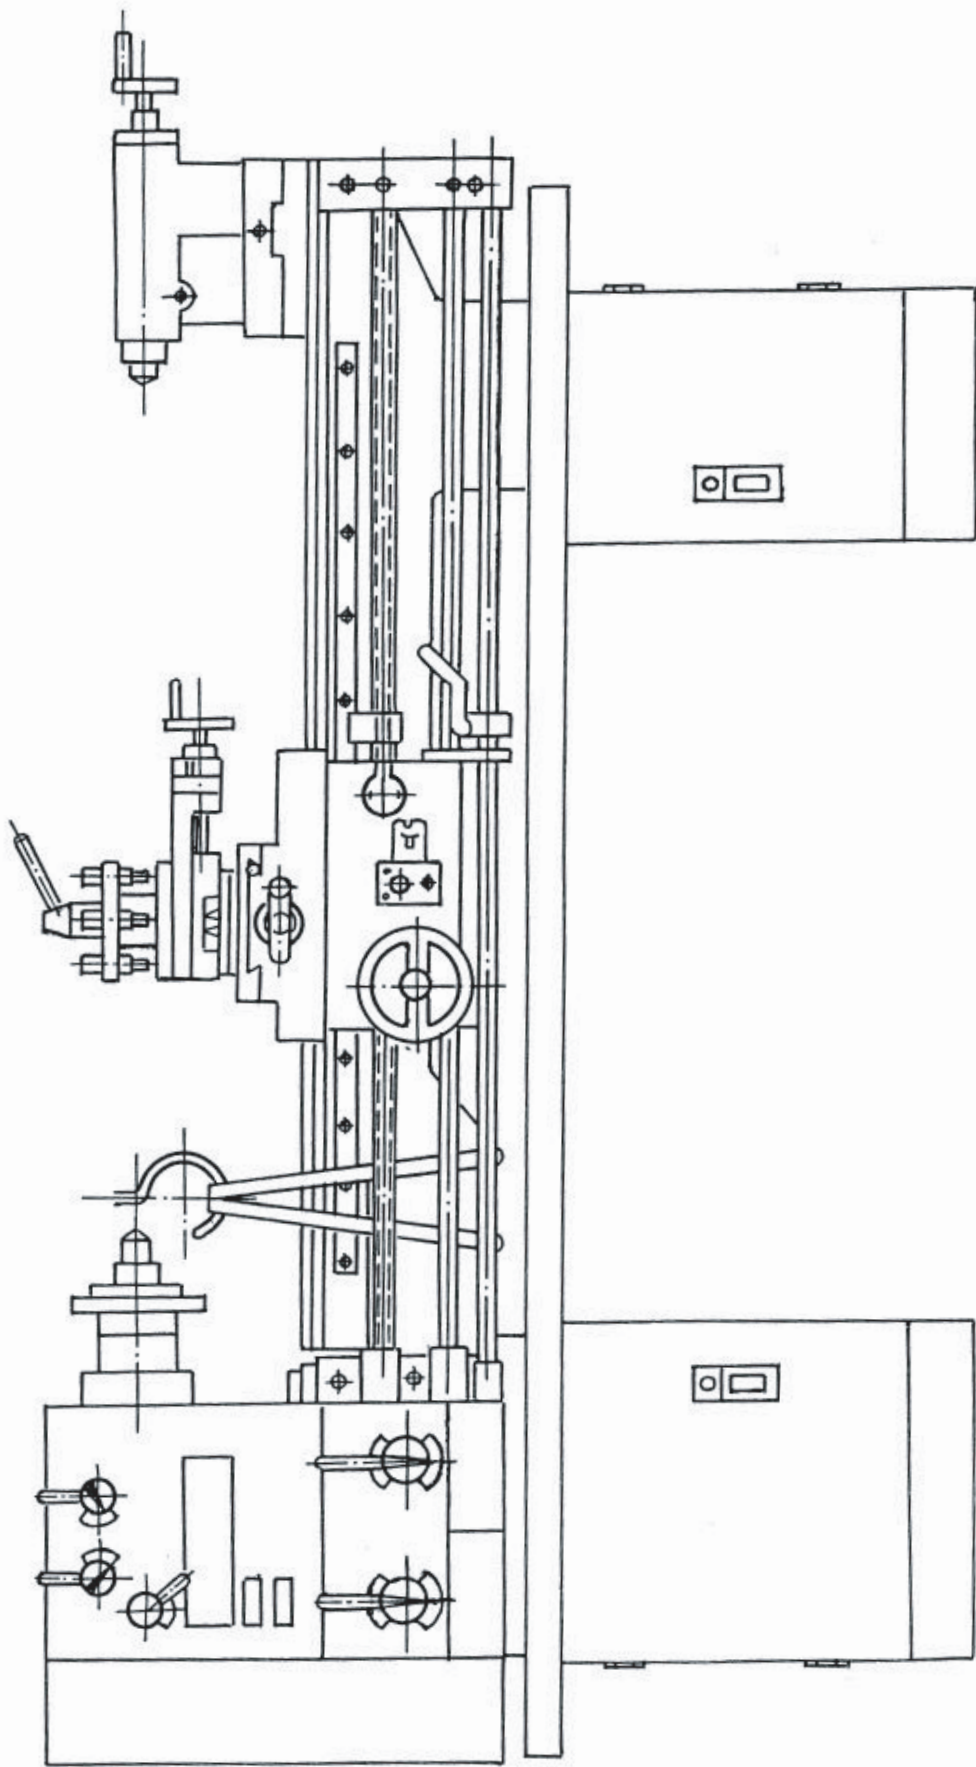

Fig.2 Position to hoist the lathe
3.3 Sling lathe as shown in the hoisting Fig.2 When it is being transported.